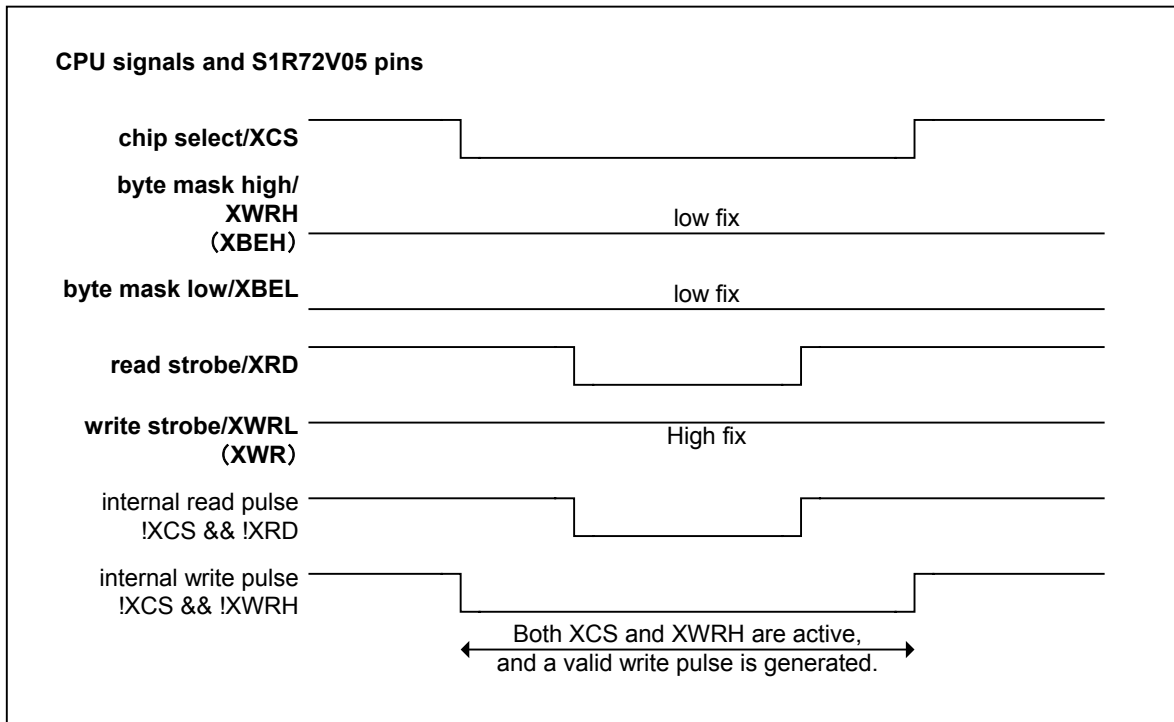

Fig. 6.79 Read access before the ChipConfig register is initialized
If the S1R72V05 is accessed for reads before the ChipConfig register is set, an internal problem may occur in the chip in which read and write operations are simultaneously performed, as shown in Fig. 6.79. LSI operations cannot be guaranteed in such cases. Be sure to set the ChipConfig register first.
If odd data is found present after data was written wordwise from a byte boundary nonexistent state by setting the `D_EPnControl.EP0FIFO_Clr` bit, `D_EPrFIFO_Clr.EPx{x=a-c}FIFO_Clr` bit (during device) or `H_CHnControl.CH0FIFO_Clr` bit (during host) or the `MediaFIFO_Control.MediaFIFO_Clr` bit (during media data transfer), etc. as necessary, make sure that only the last byte of consecutive data (i.e., data Z) is written to the High side. This state is shown in (1) of Fig. 6.79. The data is output from the USB, etc. in order of A, B, C, D, ... X, Y, and Z.
To write data while the FIFO has a byte boundary in it, first write data to the Low side (write of data K) to eliminate the byte boundary and then write data wordwise (data L and M). This state is shown in (2) of Fig. 6.79.